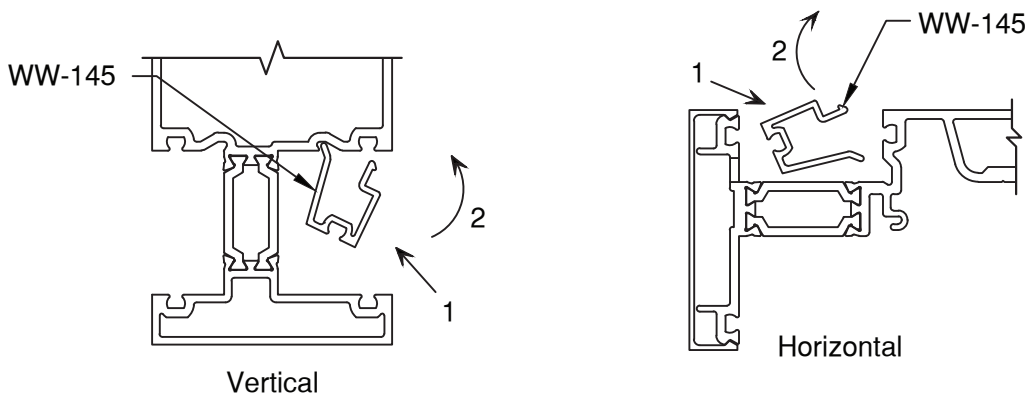

Figure 27
- A.1 Install vertical adaptors first, leaving an equal overlap into each pocket. **SEE FIGURE 27.** Refer to **VERTICAL SPLICING** if vertical mullion is spliced within a spandrel lite. Transition adaptors must be installed after mullion splice is sealed.